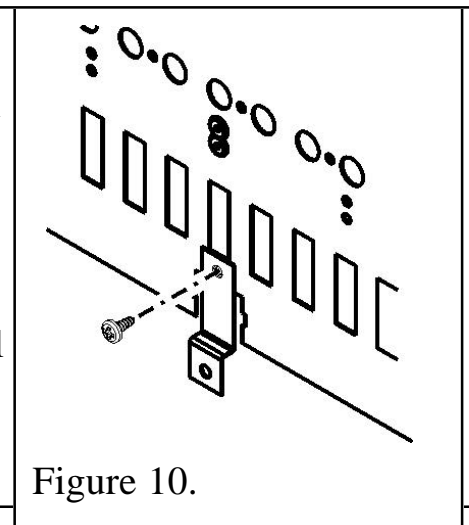

Figure 10.
2. If the heater is to be fixed in an elevated position (i.e. above hearth or finished floor height) then the lower support bracket needs to be secured to the rear bottom of the heater. To do this use the black screw provided (See figure 10).